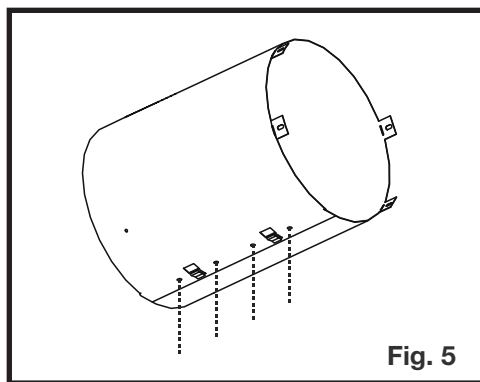

Fig. 5
5. Ensure both ends line up and secure ends with clip and fasteners (Figure 5).
5. Align the vent shield with the holes and replace above screws (Figure 5).